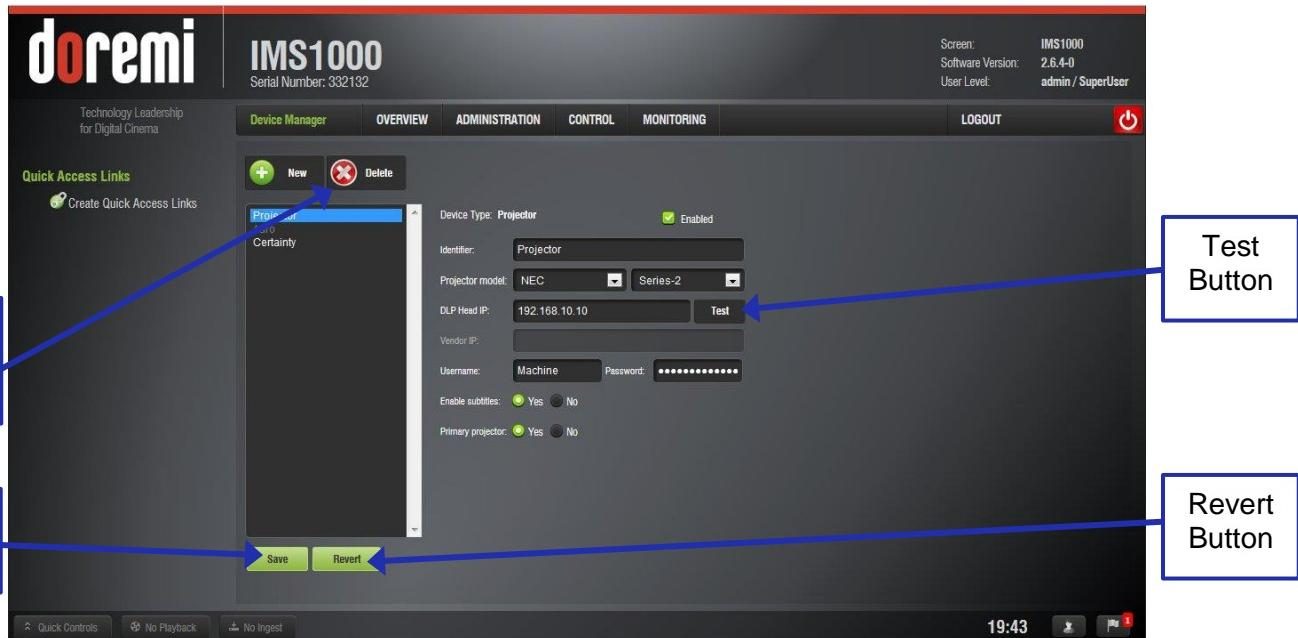

Figure 129: Device Manager GUI – Projector Fields Configuration
The main configuration window will be updated to reflect the addition of the Projector device. The user will be able to enter the projector parameters (Figure 129):
- Enter the IP address. The Test button will allow you to test the IP connection prior to saving (Figure 129).
- Click the Save button to record the settings (Figure 129). A password confirmation page will appear. Enter the password to save and record the settings. SuperUser privileges are necessary to confirm the changes. If the user is already logged in with SuperUser privileges, the password confirmation window will not appear. Clicking the Revert button prior to saving will delete the unsaved information (Figure 129).
- Click the Delete Device button (Figure 129).
- Click the Save button to record the settings. A window asking for the password will appear. Enter the password to save the settings and proceed. Clicking the Revert button prior to saving will delete the unsaved information (Figure 129).
- To remove the eCNA device, select it in the Device Manager GUI and click the Delete Device button (Figure 129).
- Click the Save button to record the settings. A window will appear asking for a password. Enter the password to proceed. Clicking the Revert button prior to saving will delete the unsaved information (Figure 129).
- Click the Delete button (Figure 129).
- Click the Save button to record the settings. A window will appear asking for a password. Enter the password to proceed. SuperUser privileges are necessary to confirm the changes. If the user is already logged in with SuperUser privileges, the password confirmation window will not appear. Clicking the Revert button prior to saving will delete the unsaved information (Figure 129).
- To complete the configuration, click the Save button (Figure 129). Enter the appropriate password and click Ok. Clicking the Revert button prior to saving will delete the unsaved information (Figure 129).
- To complete the configuration, click the Save button (Figure 129).The user will be asked for a password. Enter the appropriate password and press Ok. Clicking the Revert button prior to saving will delete the unsaved information (Figure 129).